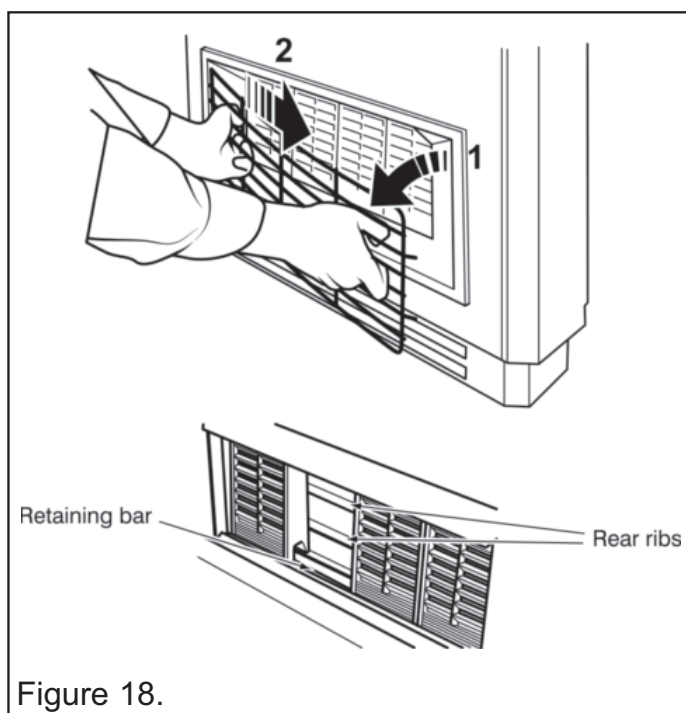

Figure 18.
1. Remove the dress guard by gently pulling it in the centre with one hand, and carefully springing out one end from the fascia with the other. Slide the opposite side of the dress guard clear of the fixing holes. **Take care not to scratch the trim (See figure 18).**